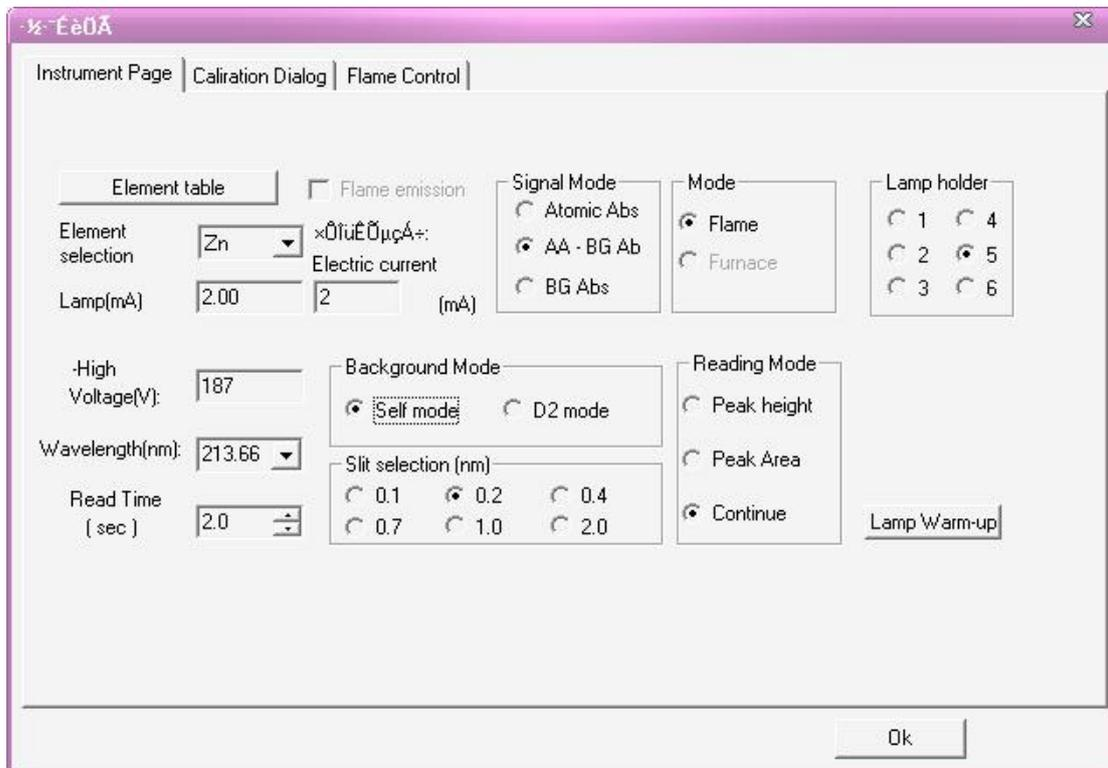

Figure 6-14
5. Select the element of Zn and the signal mode of “AA-BG AE”, the background mode is self mode, the corresponding parameter is shown in the figure 6-14